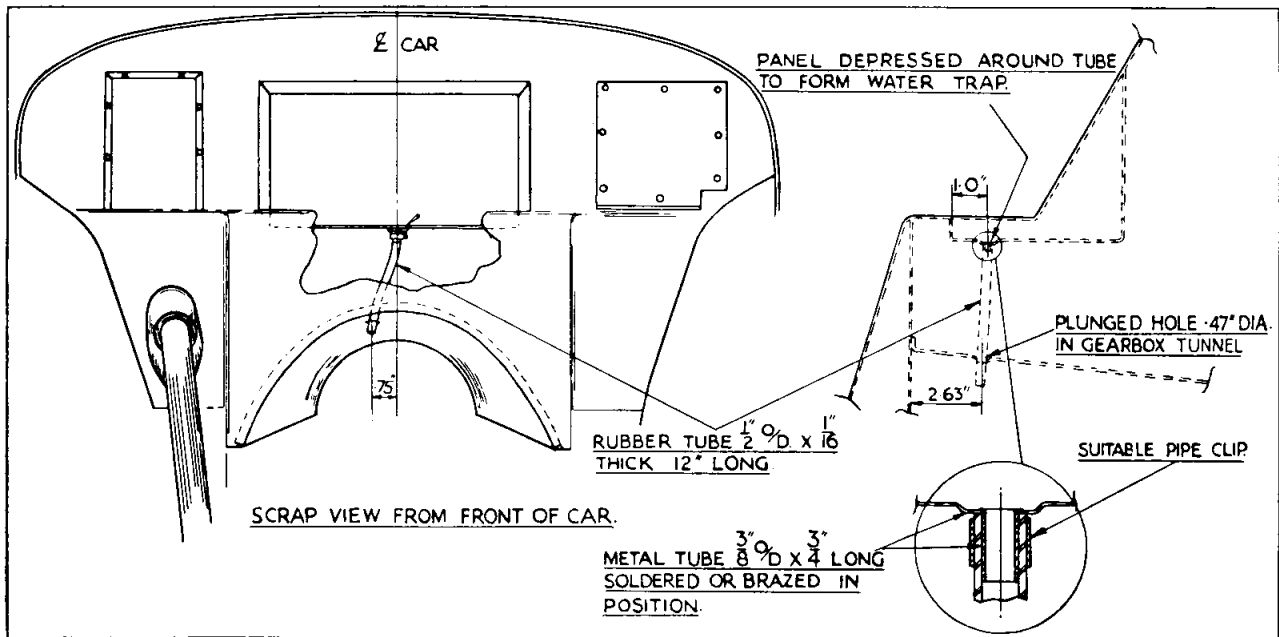

Fig. 2 Illustration giving details of Battery Box Drain for modifying cars prior to Commission No. T.S. 3288.
4. **BATTERY BOX DRAIN (Fig. 2)**